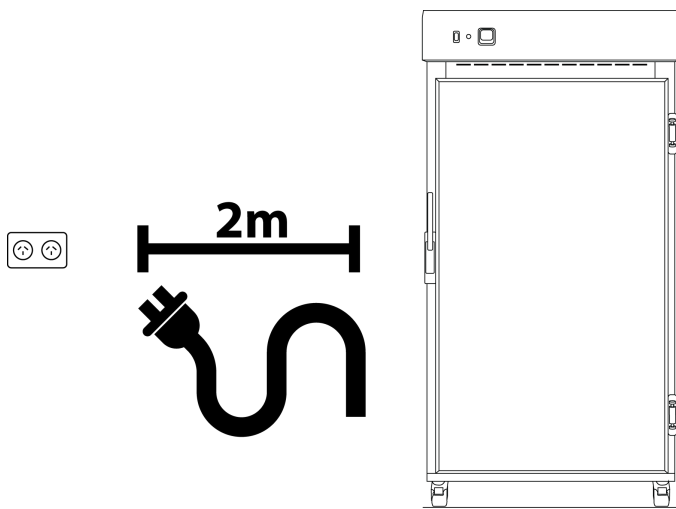

Fig 1. Suitable distance from power supply (2m)
- The incubator includes a 2.5m removable mains power lead with a three pin plug and right angle female IEC plug. Ensure the product is reasonably distanced from the power supply. **(Fig 1)**